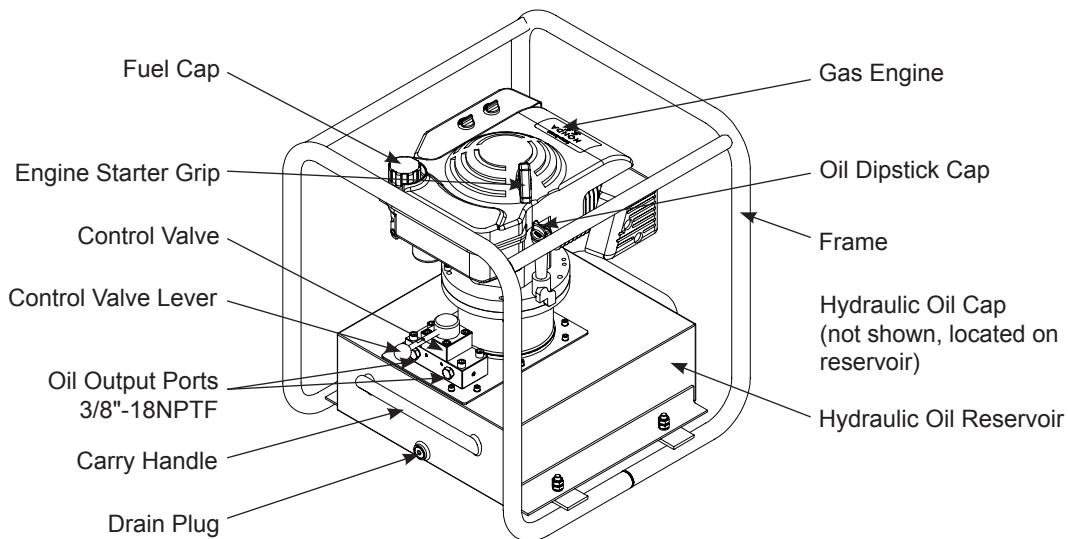

Figure 1 - Model PG70M3N05 Components
2. Familiarize yourself with the specifications and illustrations in this owners manual. Many malfunctions in new equipment are the result of improper operation and/or improper set-up assembly. Know your pump, its limitations and how it operates before attempting to use. Refer to specification chart and figure 1 on page 2 for details of oil port thread size, usable oil capacity and more. Read and follow all instructions carefully.